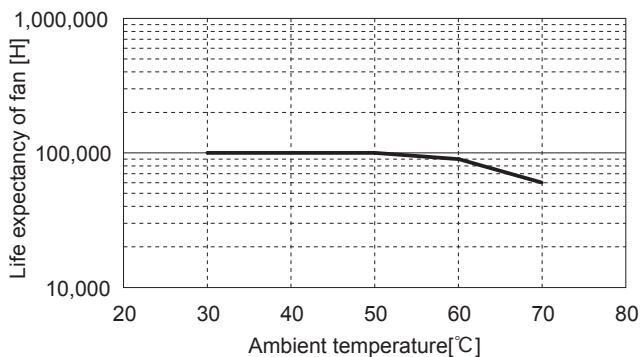

Fig.3.1 Life expectancy
- Life expectancy ($R(t)=90\%$) of fan depends on use conditions as shown in Fig.3.1.